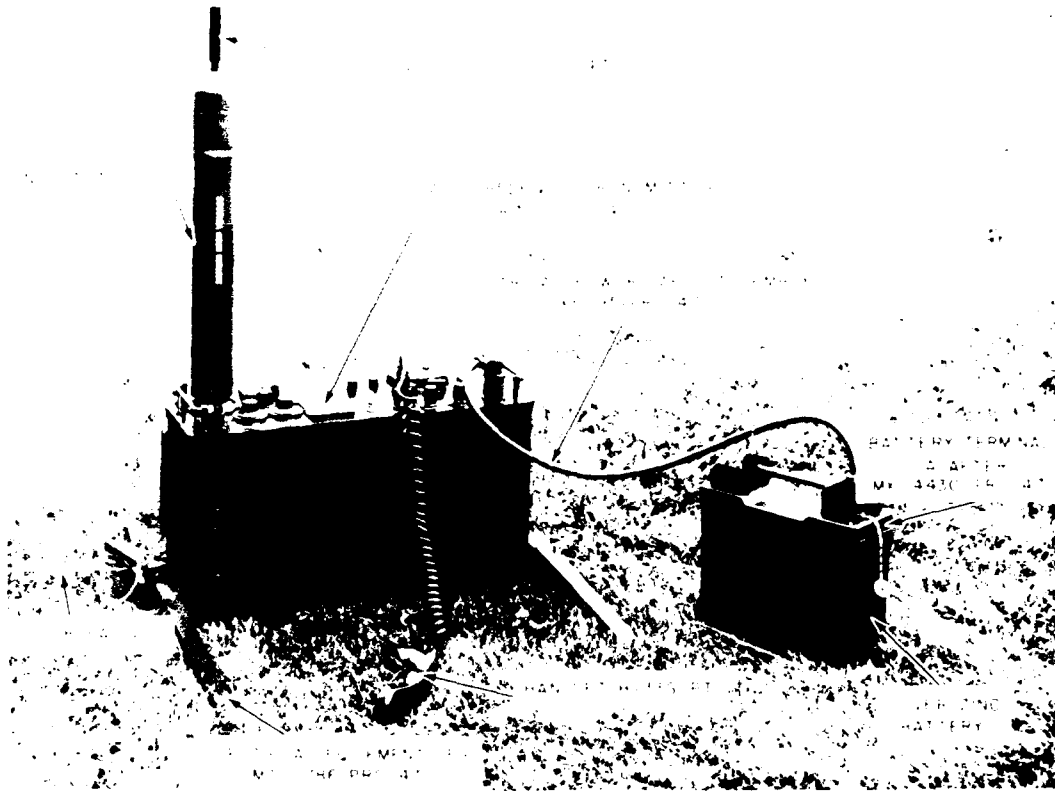
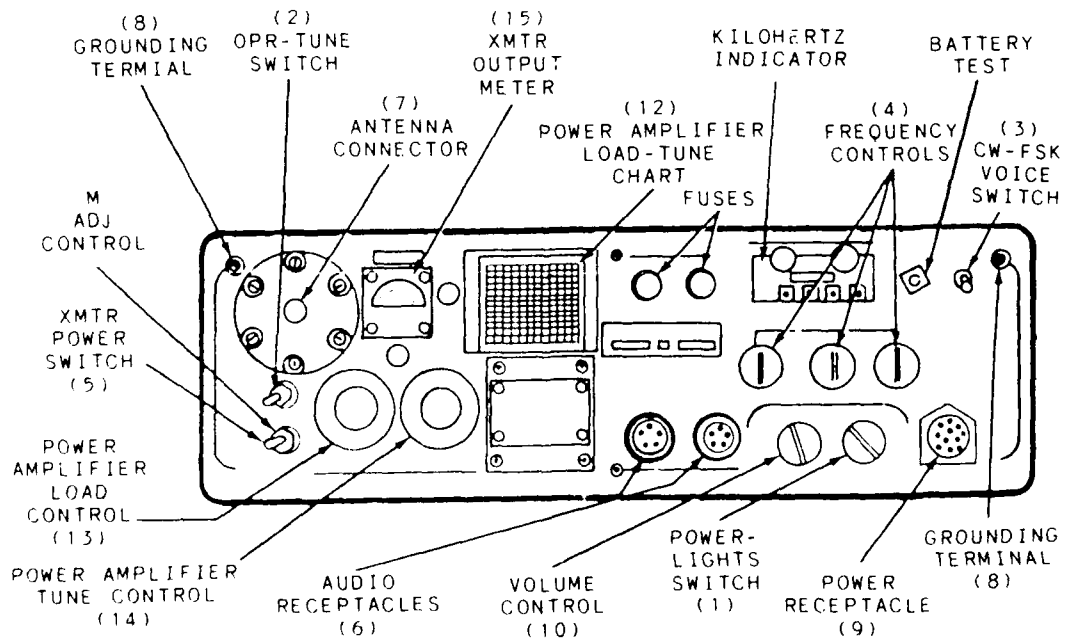

Figure 8-5.—AN/PRC-47 radio set.
Figure 8-6.—Radio Receiver Transmitter RT-671/PRC-47 control panel.
The AN/PRC-47 radio set, shown in figure 8-5, is a team-pack, transportable, single-sideband (SSB), amplitude-modulated (AM) transceiver (transmitter and receiver combined). It operates in the high frequency range (1 to 11.999 kHz) and
**CAUTION:** Don't connect the power cable before connecting the antenna. High radio-frequency (RF) voltages are present in the antenna connector when the transmitter power is on. Also, don't touch the antenna above the insulating boot during transmission because you may be severely burned.
**TO OPERATE SET.**—Steps 1 through 12 below are keyed to the numbers on the diagram shown in figure 8-6.
1. Check that the XMTR PWR (5) switch is in the OFF position.
2. Set OPR-TUNE switch to OPR (2).
3. Set CW-FSK/VOICE (3) switch to VOICE.
4. Set the operating frequency using the three frequency controls (4).
5. To transmit at low power, set XMTR/-PWR (5) switch to LO; for high power, set the switch to HI.
6. Attach handset H-336/PT (fig. 8-5) to either of the two audio receptacles (6).
7. Attach 15-foot whip antenna or the 45-foot wire antenna (fig. 8-5) to the ANTENNA (7) connector.
8. Ground radio to grounding terminals (8).
9. Connect cable to power receptacle (9).
10. Adjust VOLUME (10).
11. Set POWER to ON (1) and allow the set to warm up at least 1 minute.
12. LOAD and TUNE the radio to the desired frequency. Refer to the load tune chart (12). Obtain the dial setting and set the power amplifier load control (13) and the power amplifier tune control (14) to the settings indicated.
13. Depress handset push-to-talk button (fig. 8-5) and note XMTR (5) output meter for modulation. Speak into the handset.
14. Connect loudspeaker LS-166, if you desire, to the unused audio receptacle (6).